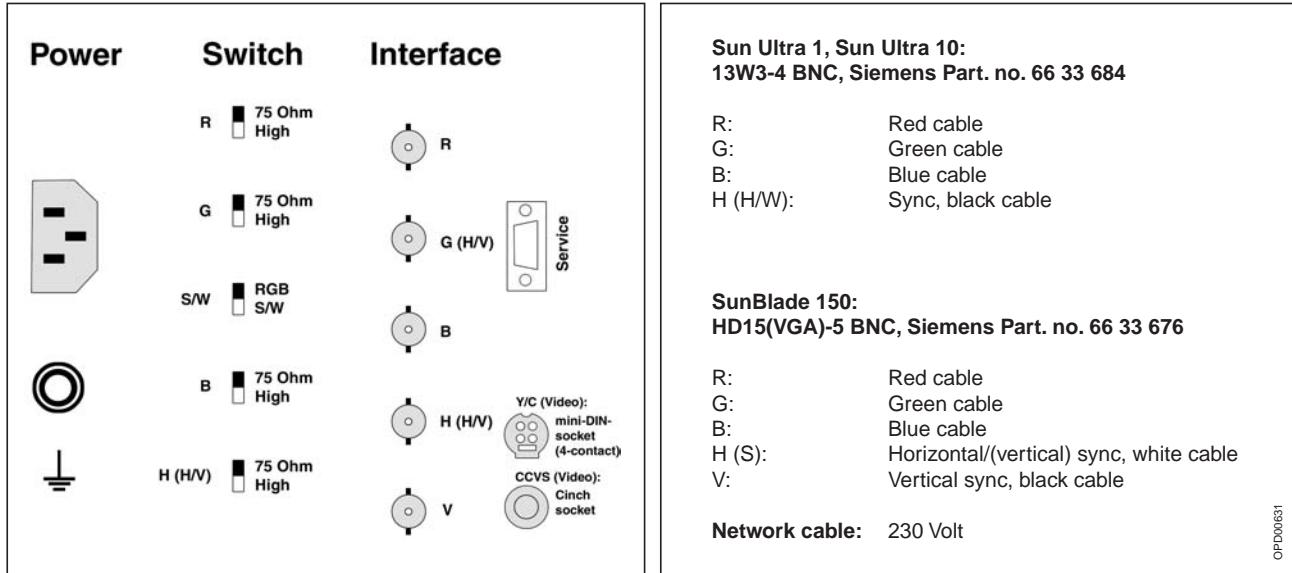

Fig. 20 Connectors between workstation and monitor
2. Connect the monitor to the workstation with the accompanying cables to the connectors on the backside of the monitor according to Fig. 20.